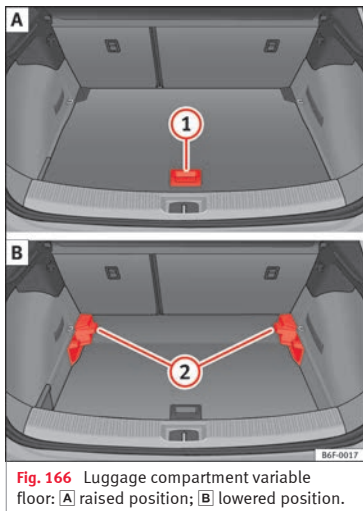

Fig. 166 Luggage compartment variable floor: **A** raised position; **B** lowered position.
- Lift the floor using handle »» Fig. 166 ① and pull it back until the front of the floor has fully passed the supports ②.
- Move the floor forward over the supports as far as the rear seat backrest and then lower the floor with the handle ①.